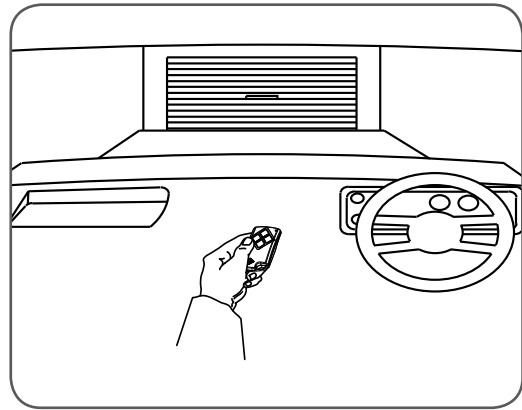

Fig. 44
- If you are in a vehicle you should aim the transmitter through your windscreen (**Fig. 44**).